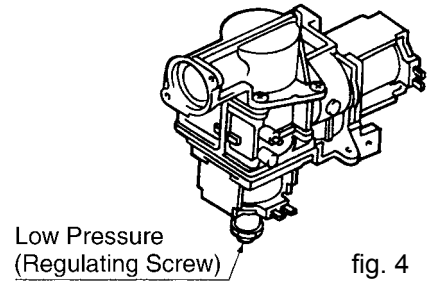

fig. 4
- Adjust the regulator screw on the modulating valve as required to the pressure below. (fig. 4).